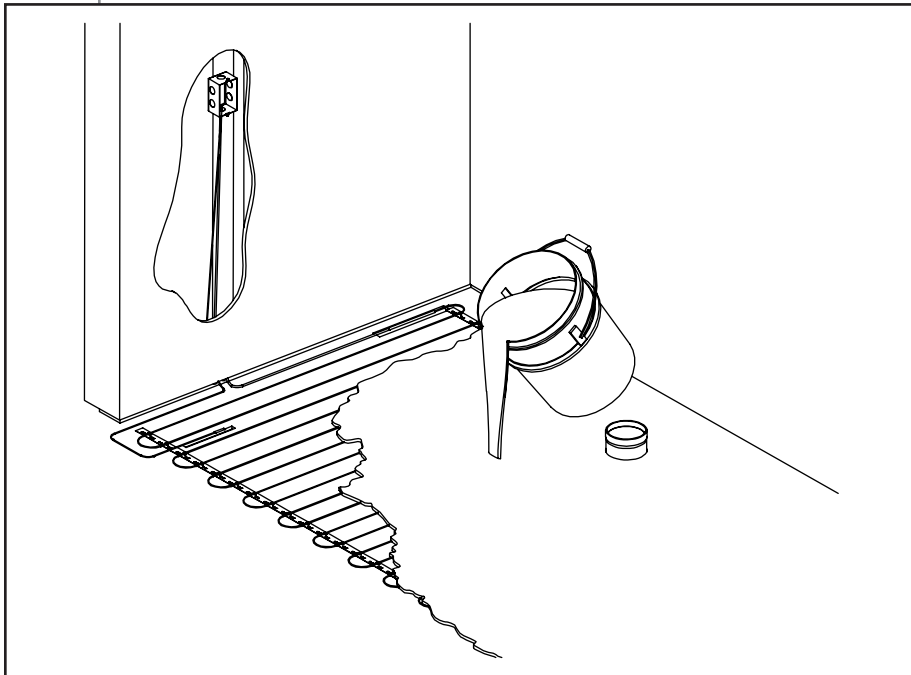

Fig. 4.6
- Completely embed the heating cable in self-levelling cement (Fig. 4.6). It is crucial that the ENTIRE heating cable (BLACK) be embedded. No part of the heating cable (BLACK) must be exposed. (A small part [top] of the heating cable may be exposed at the surface of the self-levelling cement ONLY IF a ceramic glue is used afterward AND embeds that part);